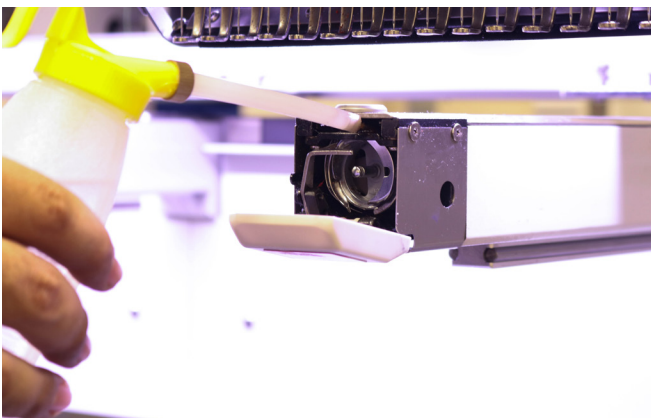

Figure 97
1. Remove the bobbin case and apply two to three drops of sewing machine oil on the race of the rotary hook, where the two sections of the hook meet. **See Figure 97.**